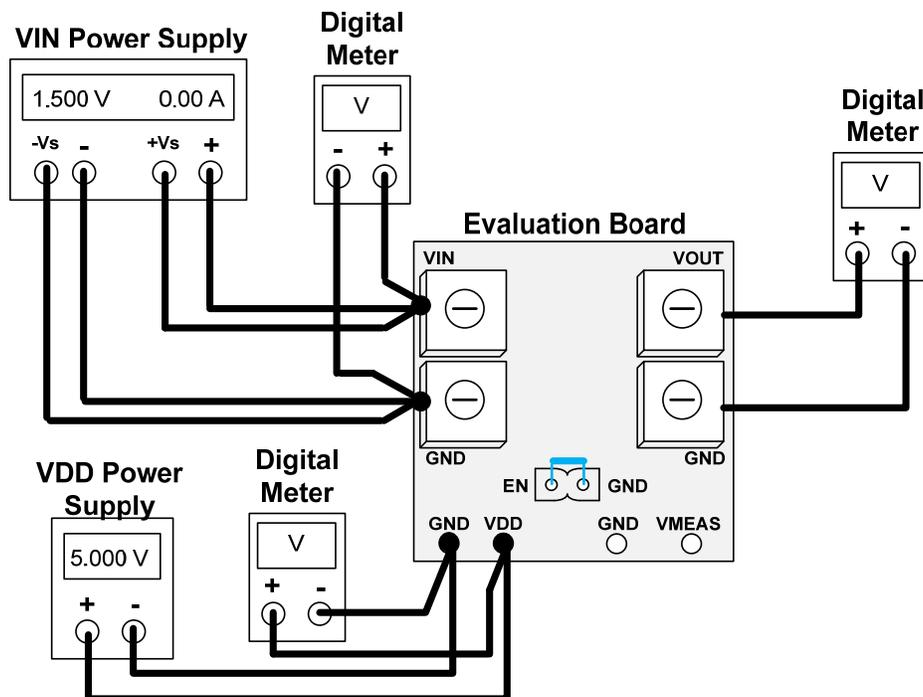

Figure 2. Evaluation Board Setup for ENABLE Function Test
2. Connect the evaluation board as shown in Figure 2 below (except for the jumper in blue).
6. Attach the jumper connecting EN and GND, as shown in blue in Figure 2.